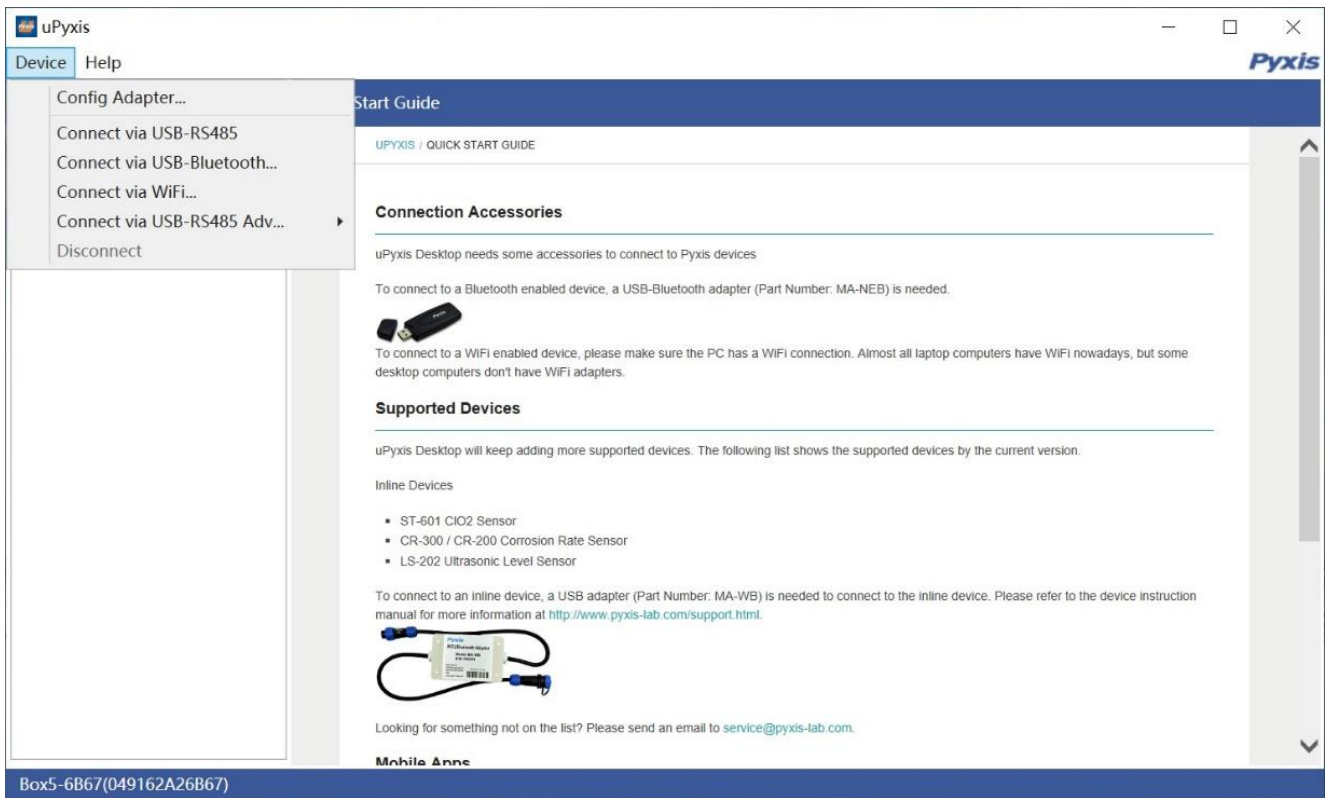

Figure 18 – Connection Options
6. Select Connect via USB-RS485 (Figure 18).